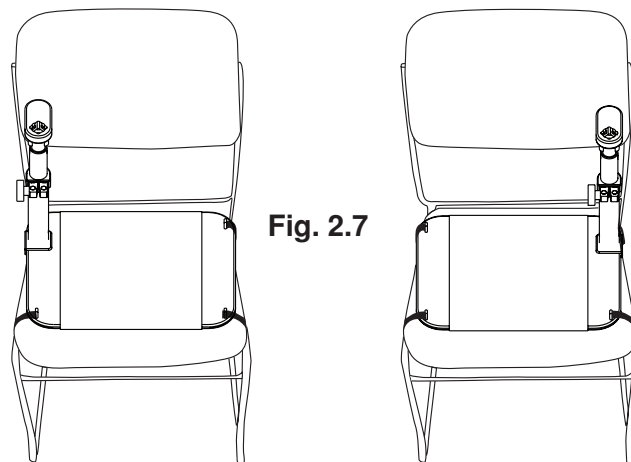

Fig. 2.7
- Position the base plate under the cushion of the chair if possible. Secure straps around seat base or cushion. (See Fig. 2.7)